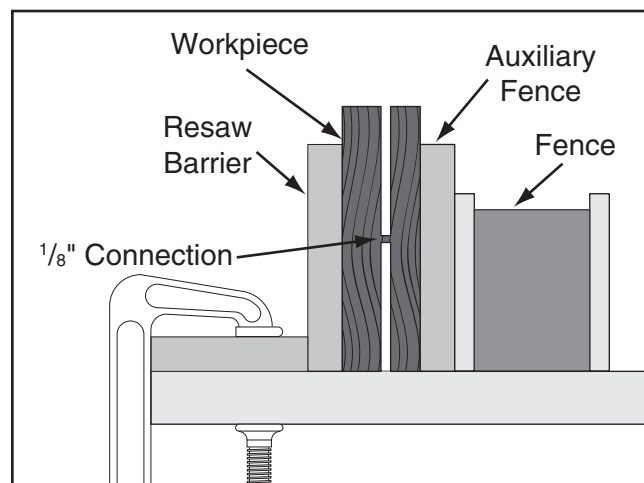

Figure 73. Ideal completed resaw cut.
7. Raise blade approximately 1 inch, or close to half the height of workpiece (see **Figure 73**), whichever is less.
10. Repeat **Steps 7–9** until blade is close to half the height of board to be resawn. The ideal completed resaw cut will leave a $\frac{1}{8}$ " connection when resawing is complete as shown in **Figure 73** on **Page 44**. Leaving a $\frac{1}{8}$ " connection will reduce risk of kickback.